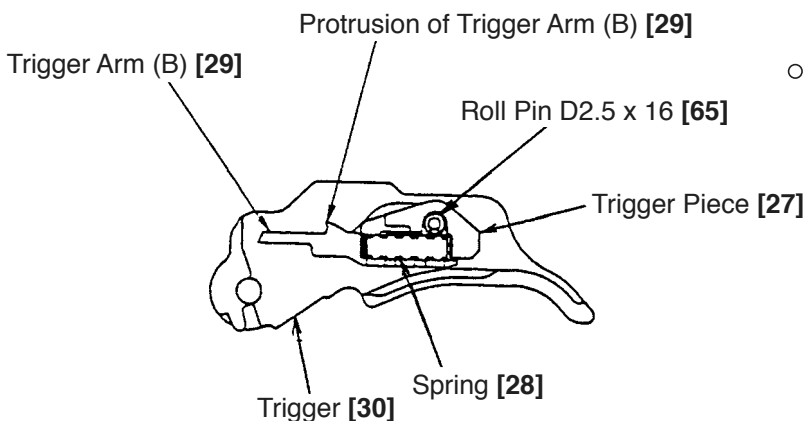

Fig. 24
- Mount Trigger Arm (B) [29] facing its protrusion upward (Fig. 24).